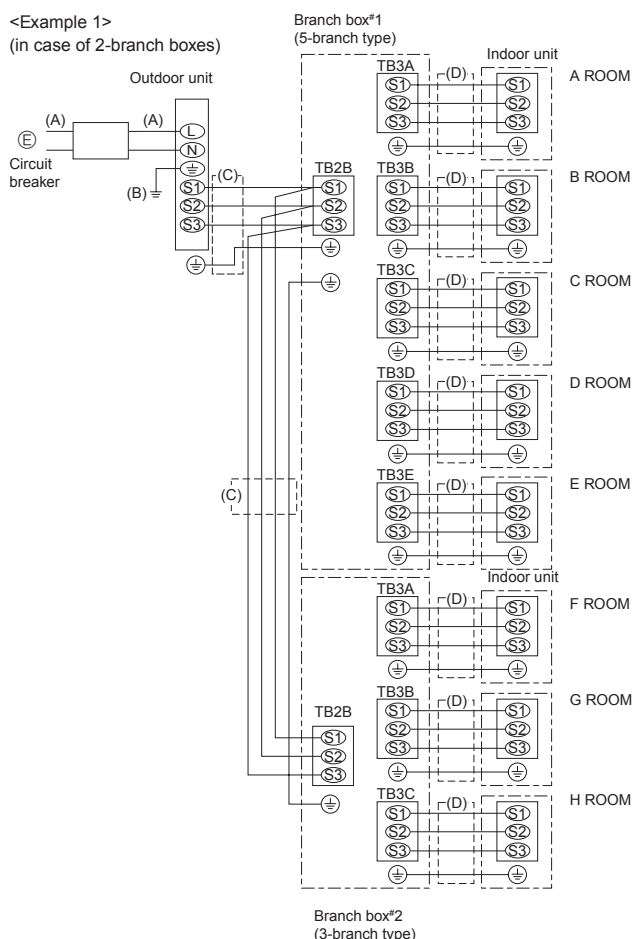

Fig. 9-5
9.2. External wiring procedure (Fig. 9-5)